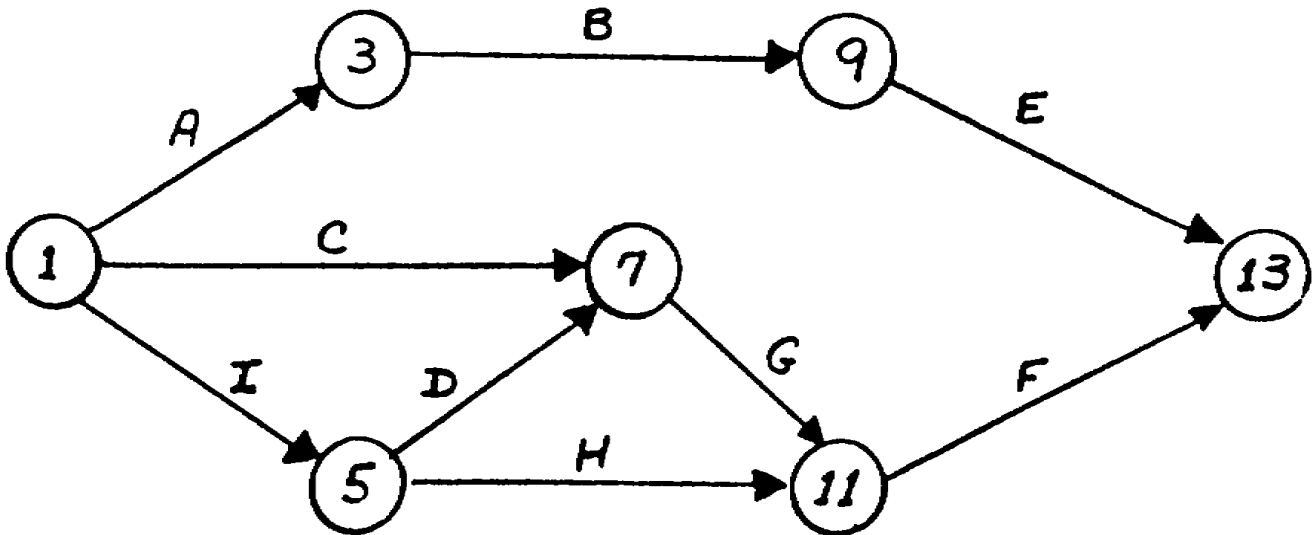

Figure 2-2. For use with exercises 8 through 11.
8. With regard to the CPM network in figure 2-2, which of the following is correct?
9. Which of the following is a correct statement about the CPM network in figure 2-2?
10. Which of the following is a correct statement about the CPM network in figure 2-2?
11. When two activity arrows converge upon an event (C and D converge on event 7 in figure 2-2), we know that
| 8. b (figure 2-2 of the lesson) | 23. a (page 2-13) |
| 9. c (figure 2-2 of the lesson) | 24. b (page 2-14) |
| 10. a (figure 2-2 of the lesson) | 25. d (page 2-14) |
| 11. c (figure 2-2 of the lesson) | 26. d (table 2-1 of the lesson) |
11. When two activity arrows converge upon an event (C and D converge on event 7 in figure 2-2), we know that both activities must be completed before a third activity (G) can begin (c).
17. The EET for event 5 is 6 (b). It is derived by adding the duration of the activity (4-5) (which is zero) to the EET at the tail of the arrow (6). $0 + 6 = 6$ (b)
18. The EET is found the same way as in exercise 17; the sum of the duration of activity 6-8, (4) plus the EET at the tail (10). $4 + 10 = 14$ (c)
21. The LET is 15. It is derived from subtracting the duration of activity 10-11, (1) from the Let of event 11 (16).